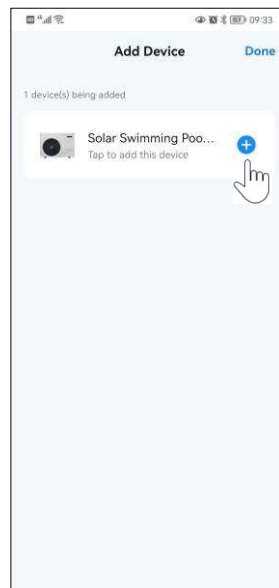

Fig.14 Select device
5. The device that will be added is displayed in the list. Click "+" next to the device t you want to add (Fig.14). It will enter the WIFI setting interface;